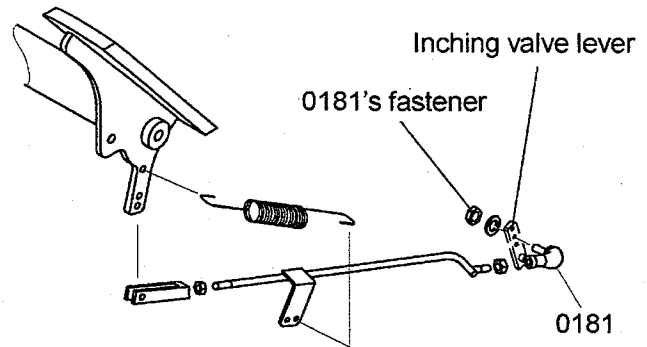

Fig43-11:
10. Fig43-11: Connect the rod (0181) to the inching valve lever, and secure it with the nut (0181's fastener). Refer to "Adjustment of Engine Control."